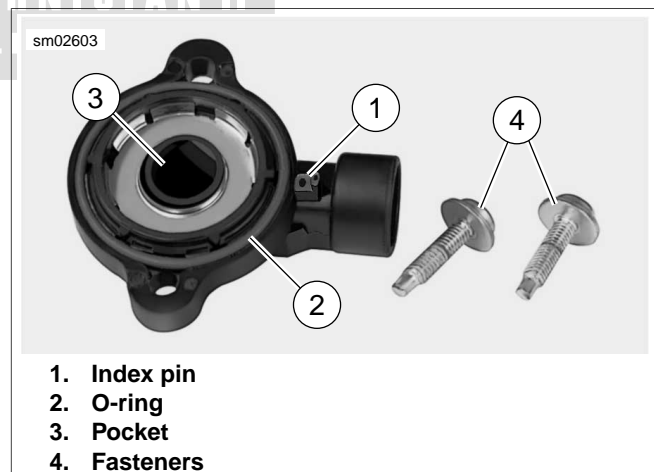

Figure 4-10. Throttle Position Sensor Installation
1. See Figure 4-10. Inspect O-ring (2) in groove of throttle position sensor for cuts, tears or signs of deterioration. Install **new** O-ring if necessary.
2. Fit pocket (3) of throttle position sensor over throttle shaft while engaging index pin (1) with hole on machined flange of induction module.
3. Install two **new** fasteners (4) to fasten throttle position sensor to induction module. Tighten screws to 18 **in-lbs** (2.0 Nm).